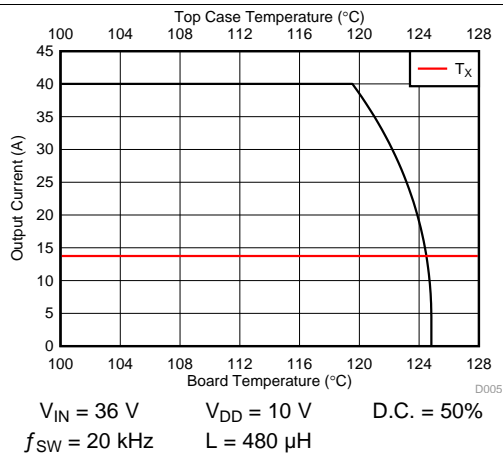

Figure 3. Typical Safe Operating Area
The SOA curve in Figure 3 provides guidance on the temperature boundaries within an operating system by incorporating the thermal resistance and system power loss. This curve outlines the board and case temperatures required for a given load current. The area under the curve dictates the safe operating area. This curve is based on measurements made on a PCB design with dimensions of 4 in (W) × 3.5 in (L) × 0.062 in (H) and 6 copper layers of 1-oz copper thickness.